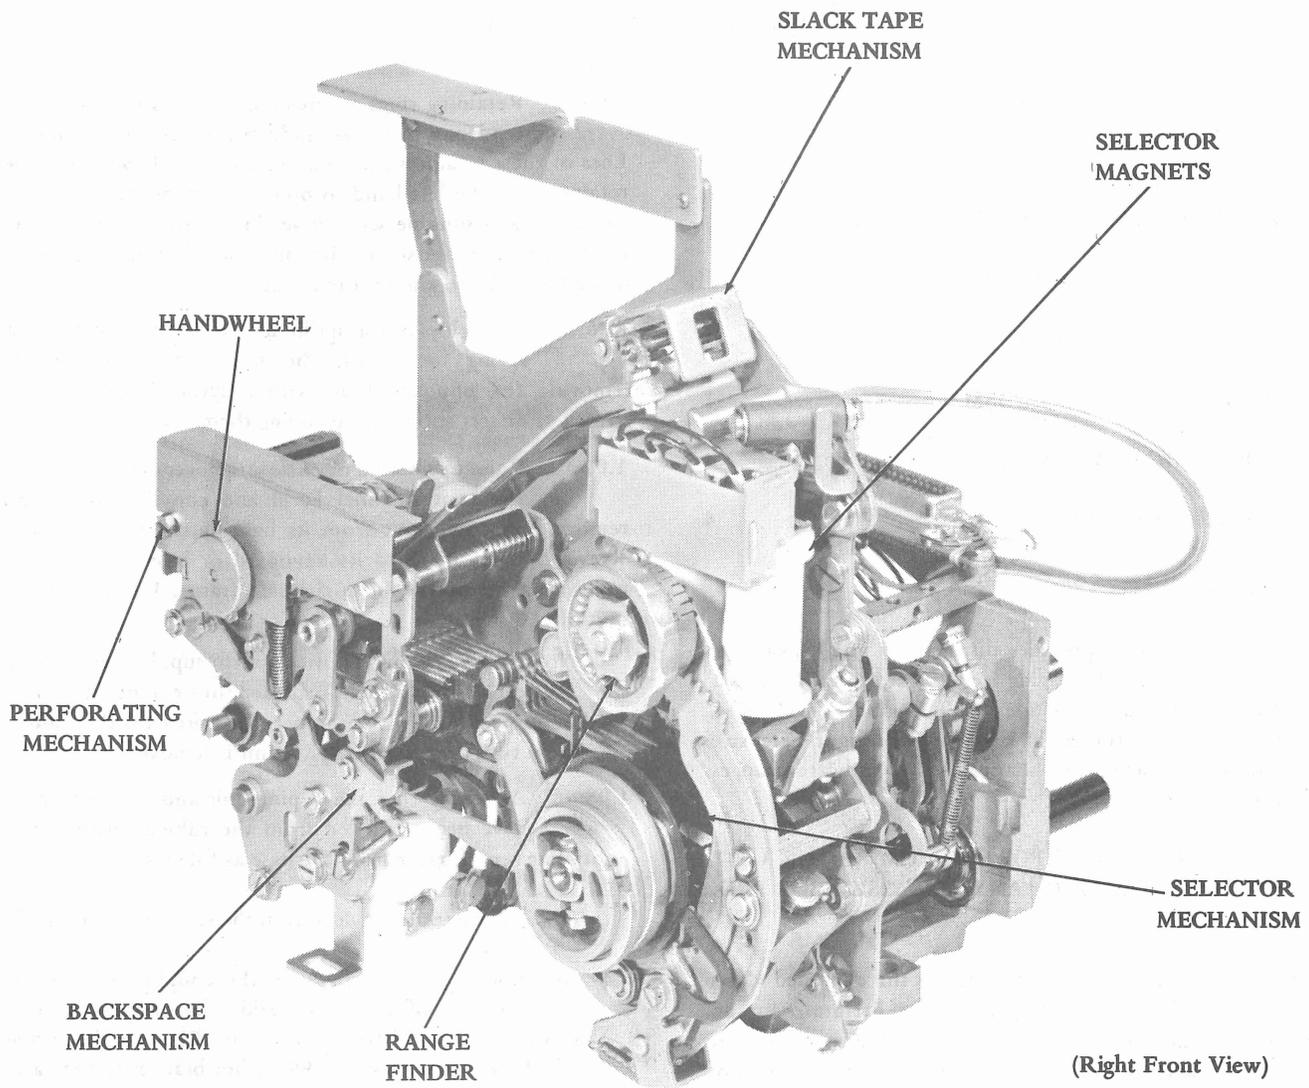

Figure 1 - 35 Nontyping Reperforator
1.01 This section provides disassembly and reassembly for the 35 Nontyping Reperforator unit (Figures 1 and 2). It is revised to include recent engineering changes, additions, and to rearrange the text. Since this is an extensive revision, marginal arrows ordinarily used to indicate changes have been omitted.